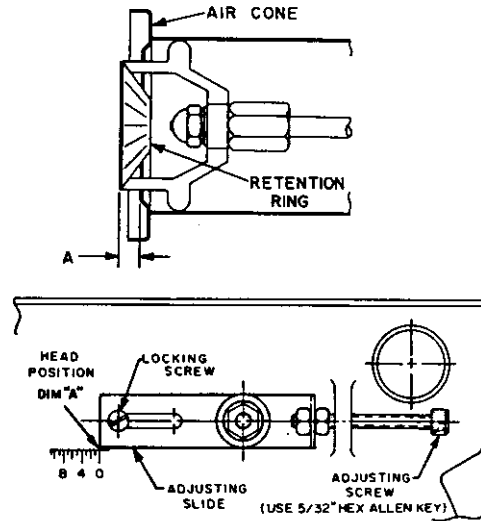

Figure 7A: Combustion Head Adjustment
- ii. By moving the electrode and combustion head assembly forward or backward, the location of the flame retention ring relative to the throttle ring can be controlled. Refer to Figure 7A.